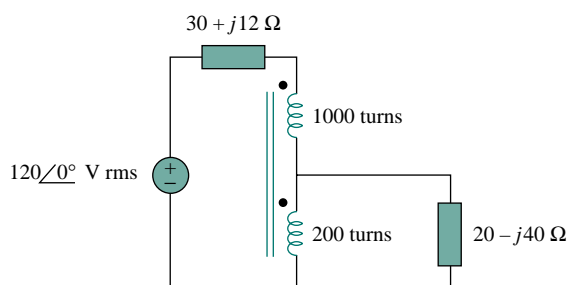

Figure 13.117 For Prob. 13.51.
- 13.51** In the ideal transformer circuit shown in Fig. 13.117, determine the average power delivered to the load.